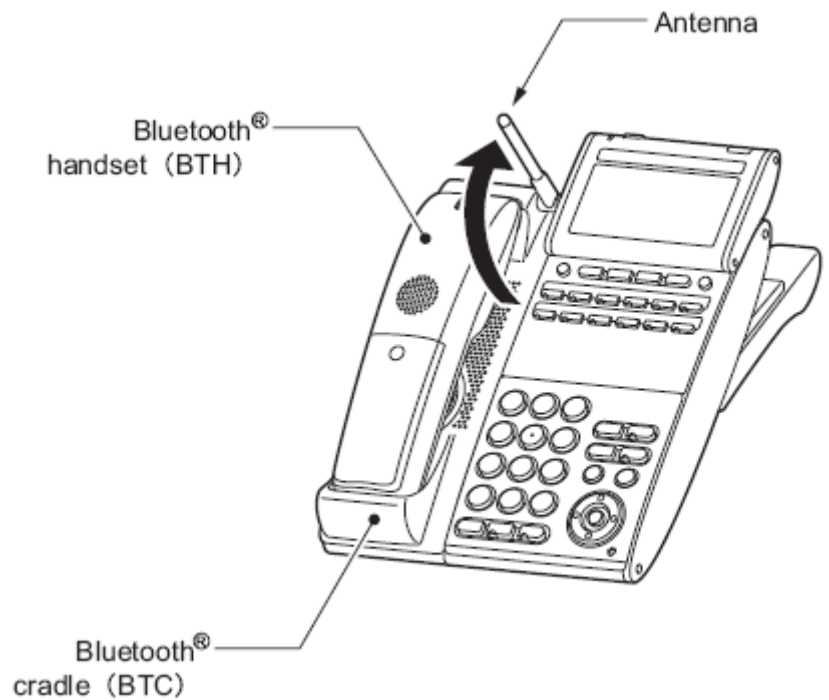

Figure 5-142 Bluetooth Handset Installed
26. Erect the antenna (refer to Figure 5-142 Bluetooth Handset Installed).